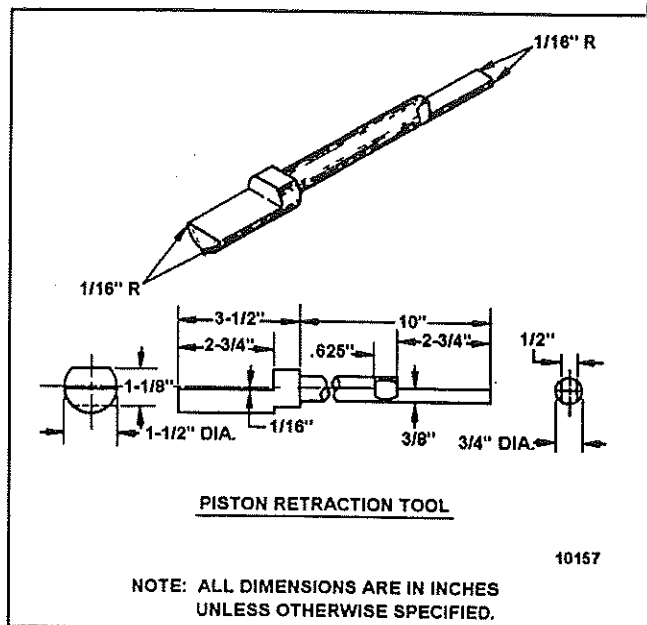

FIGURE 1 - PISTON RETRACTION TOOL
6. Using a special piston retraction tool (Figure 1) placed between the disc (34) and pistons (13), force the pistons back into the fully retracted position.
8. Close the bleed screw (23), and insert new carrier and liner assemblies (29 and 31) into the caliper heads. Ensure that the carrier assembly rests on the spacer (30), on the far end of the assembly.